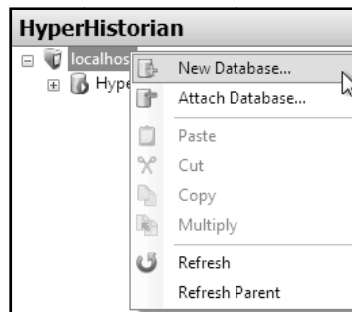

Figure L2.1 - Creating the Configuration Database
3. Once the Hyper Historian is open, right-click **Localhost** in the tree control and select **New Database**, as shown in Figure L2.1.